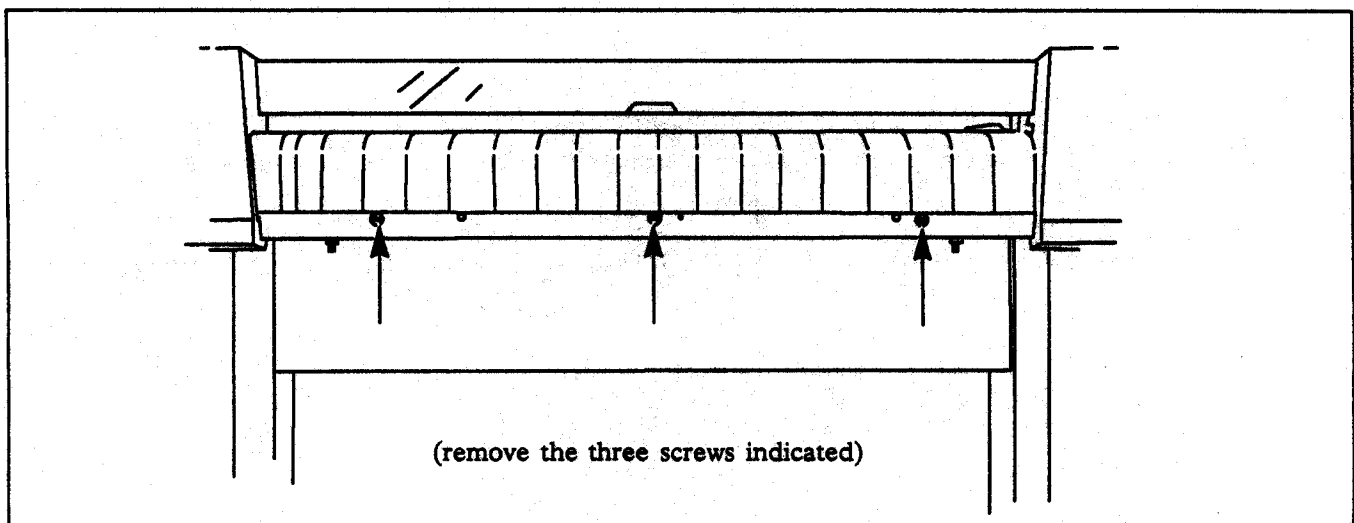

Figure 6-6. Front Platen Removal
- d. Remove the three machine screws from the bottom edge of the platen as shown. See Figure 6-6. Do NOT remove the screws that mount the front platen to its inside braces.